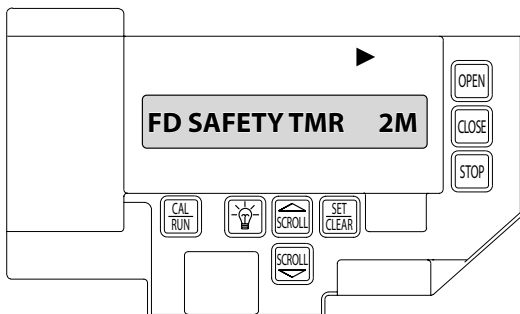

Fig. 12
- 2) Press SCROLL DN to lock desired setting and advance to "FD OBSTRCT CYL>3". Fig. 12